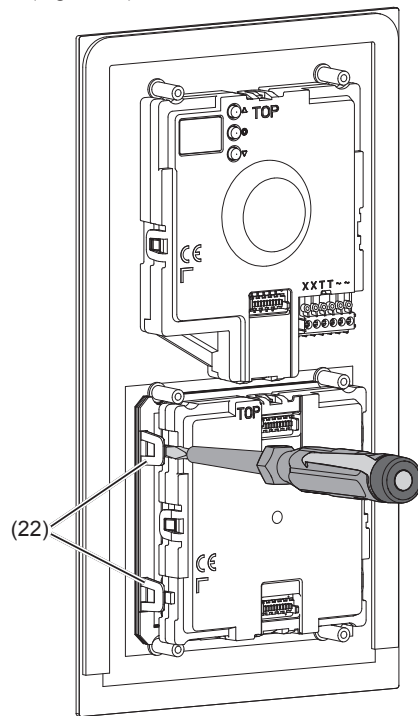

Figure 20: Unlatching module
- To remove the call push-button module, unlatch the side retaining brackets (22) of the module mounting by carefully lifting up with a screwdriver (Figure 20).